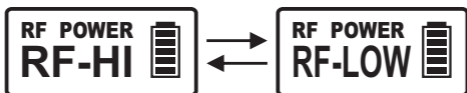

Fig. 11
5. RF Power Setting, Fig. 11:
- (A) RF Power can be changed to RF-HI or RF-LOW.
- (B) Press MODE button to access RF POWER parameter. Press SET button, the parameters start flashing. Press SET button again, the parameter will change circularly. Press MODE button to save or the parameter saves automatically when flashing stops.